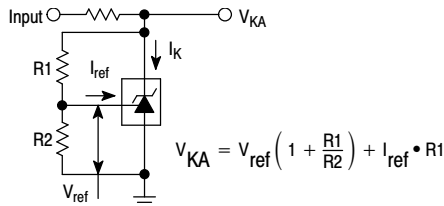

Figure 2. Test Circuit for  $V_{KA} > V_{ref}$
- The dynamic impedance ZKA is defined as:  $|Z_{KA}| = \frac{\Delta V_{KA}}{\Delta I_K}$ . When the device is programmed with two external resistors, R1 and R2, (refer to Figure 2) the total dynamic impedance of the circuit is defined as:  $|Z_{KA}'| \approx |Z_{KA}| \left( 1 + \frac{R1}{R2} \right)$
6. The dynamic impedance ZKA is defined as  $|Z_{KA}| = \frac{\Delta V_{KA}}{\Delta I_K}$ . When the device is programmed with two external resistors, R1 and R2, (refer to Figure 2) the total dynamic impedance of the circuit is defined as:  $|Z_{KA}'| \approx |Z_{KA}| \left( 1 + \frac{R1}{R2} \right)$